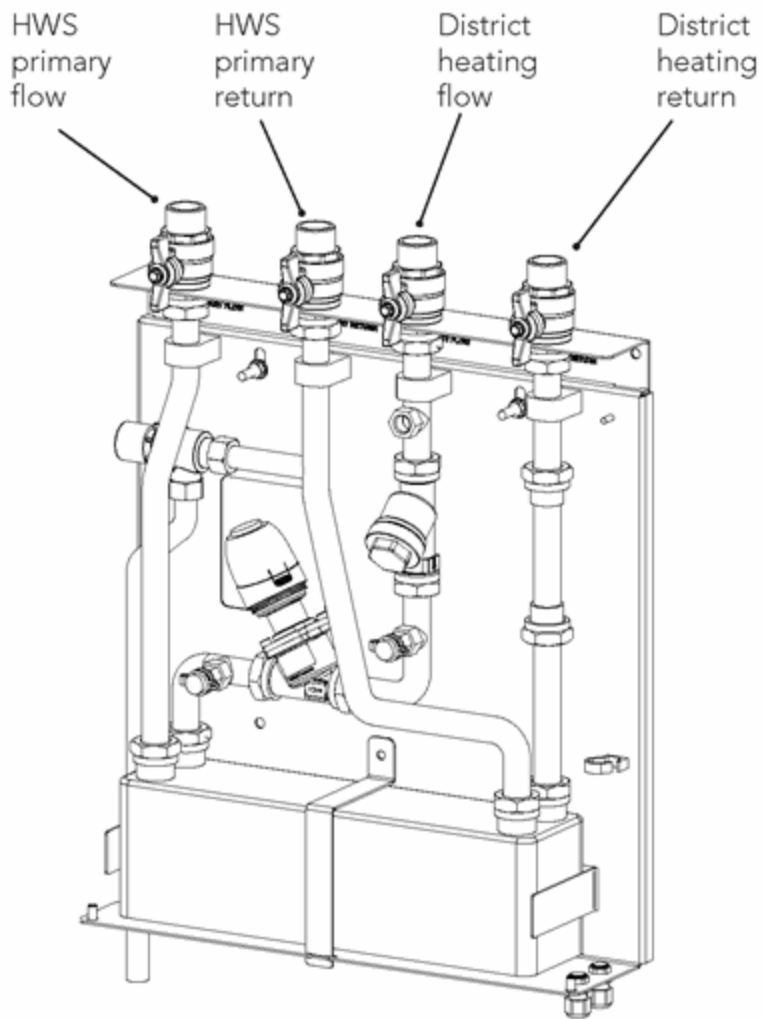

Fig 23. District connections and drain cock
2. Using the isolation valves shut off the district heating flow and return connections as detailed in Fig 23.